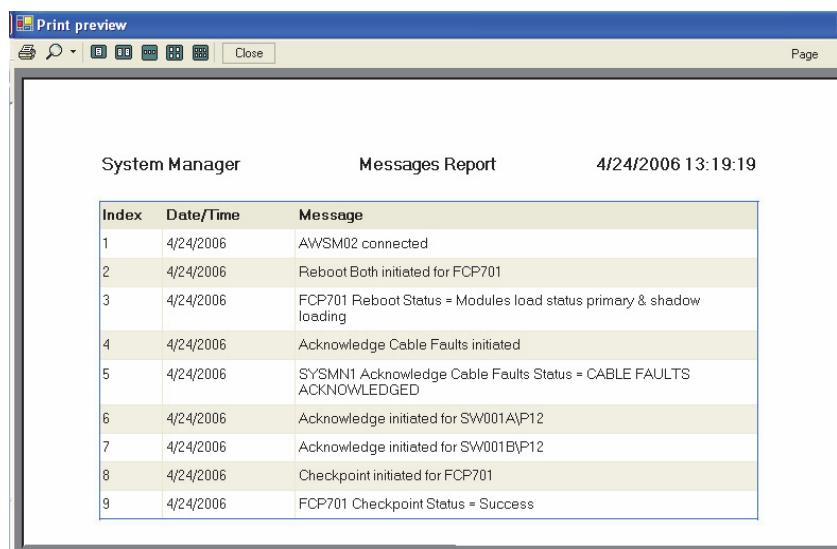

Figure 2-15. Print Preview of the Messages Tab
3. Click **OK** to display the report in the **Print preview** window (Figure 2-15).